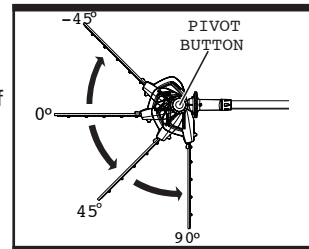

Fig. 4b
2). Adjust the head until it snaps securely into place at one of the four positions indicated by the notches. (See Fig. 4b).